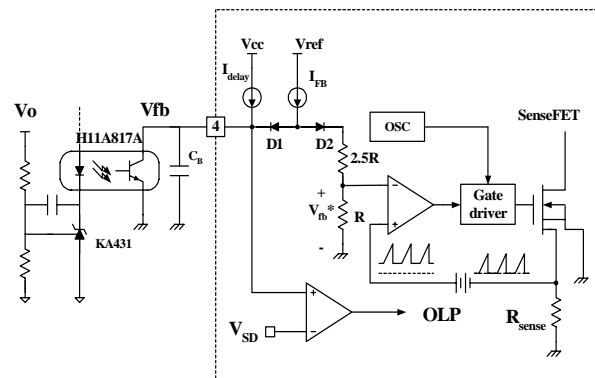

Figure 5. Pulse width modulation (PWM) circuit
2. Feedback Control : FSDM07652RB employs current mode control, as shown in Figure 5. An opto-coupler (such as the H11A817A) and shunt regulator (such as the KA431) are typically used to implement the feedback network. Comparing the feedback voltage with the voltage across the R_{sense} resistor plus an offset voltage makes it possible to control the switching duty cycle. When the reference pin voltage of the KA431 exceeds the internal reference voltage of 2.5V, the H11A817A LED current increases, thus pulling down the feedback voltage and reducing the duty cycle. This event typically happens when the input voltage is increased or the output load is decreased.
2.1 Pulse-by-pulse current limit: Because current mode control is employed, the peak current through the Sense FET is limited by the inverting input of PWM comparator (V_{fb}*) as shown in Figure 5. Assuming that the 0.9mA current source flows only through the internal resistor (2.5R + R = 2.8 kΩ), the cathode voltage of diode D2 is about 2.5V. Since D1 is blocked when the feedback voltage (V_{fb}) exceeds 2.5V, the maximum voltage of the cathode of D2 is clamped at this voltage, thus clamping V_{fb}*. Therefore, the peak value of the current through the Sense FET is limited.